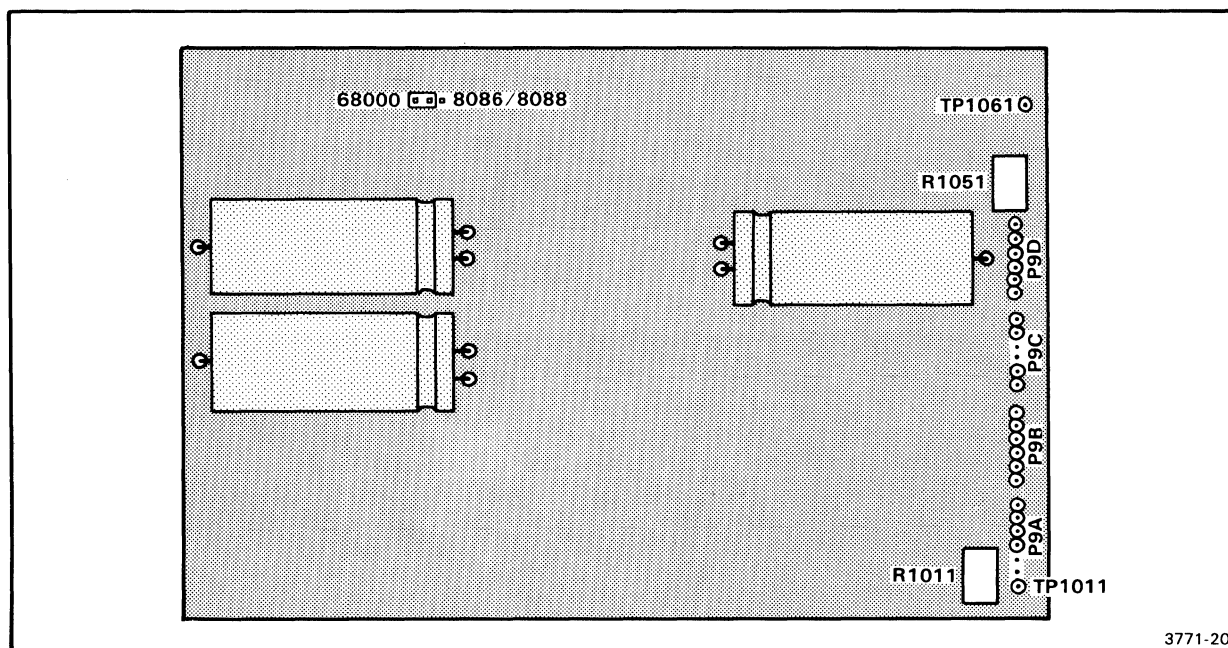

Fig. 6-2. Power Supply board.
For the remainder of this procedure, refer to Fig. 6-2.
5. Connect the positive (+) test probe of the DVM to TP1061 on the Power Supply board (see Fig. 6-2).
11. Connect the positive (+) test probe of the DVM to TP1011 on the Power Supply board (see Fig. 6-2).